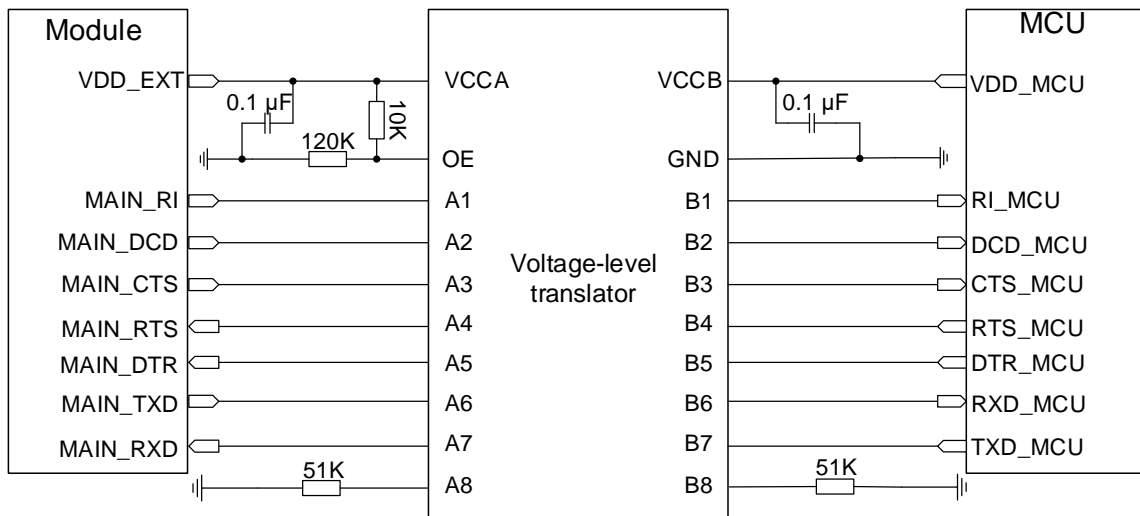
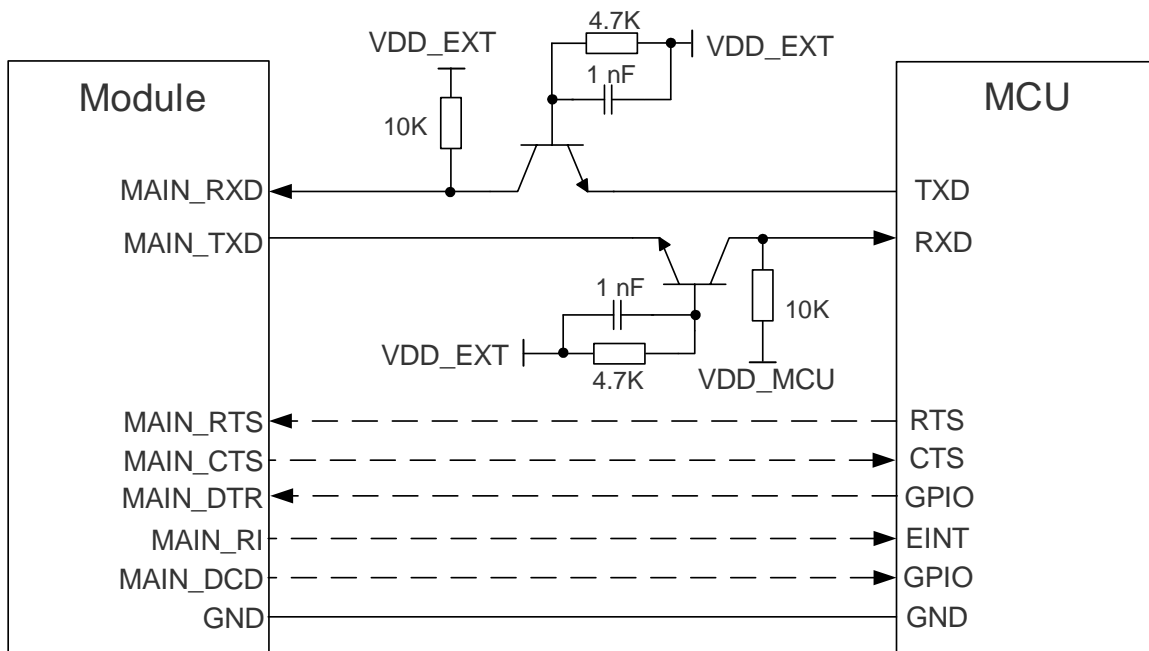

Figure 12: Main UART Reference Design (IC Solution)
Figure 13: Main UART Reference Design (Transistor Solution)
4. The level-shifting circuits (**Figure 12** and **Figure 13**) take the main UART as an example. The circuits of the DM UARTs are connected in the same way as the main UART.